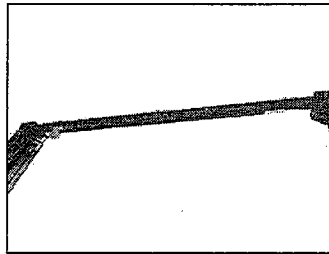

Fig. 15
9. Put on the crossbeam on the top of the columns then bolt it. (Fig. 15)